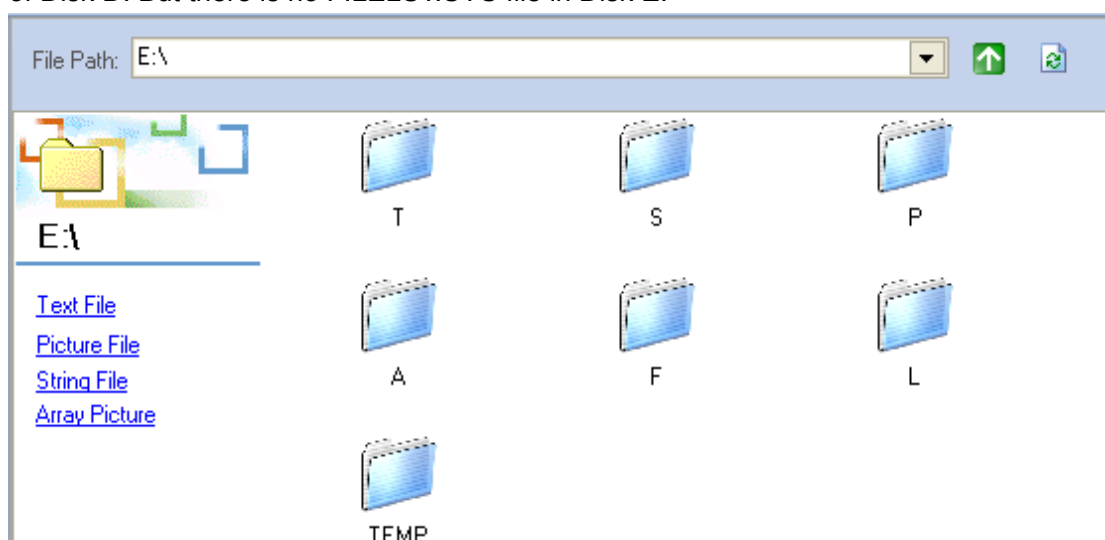

Fig. 6.11 Directory of Disk E
**Disk E:** This disk is RAM disk, the files in it can be refreshed frequently, and the refresh speed is fast. But after the power is off, the files will be lost. As is shown in Fig 6.11, it is the directory of Disk E. The structure and the folder function of Disk E is same as those of Disk D. But there is no FILELST.SYS file in Disk E.